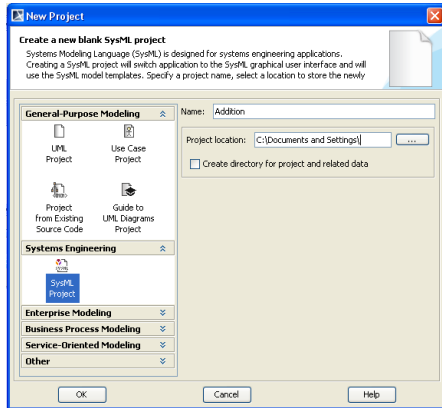

Figure 2.2 New Project window
- b. In New Project window (Figure 2.2), choose SysML Project,